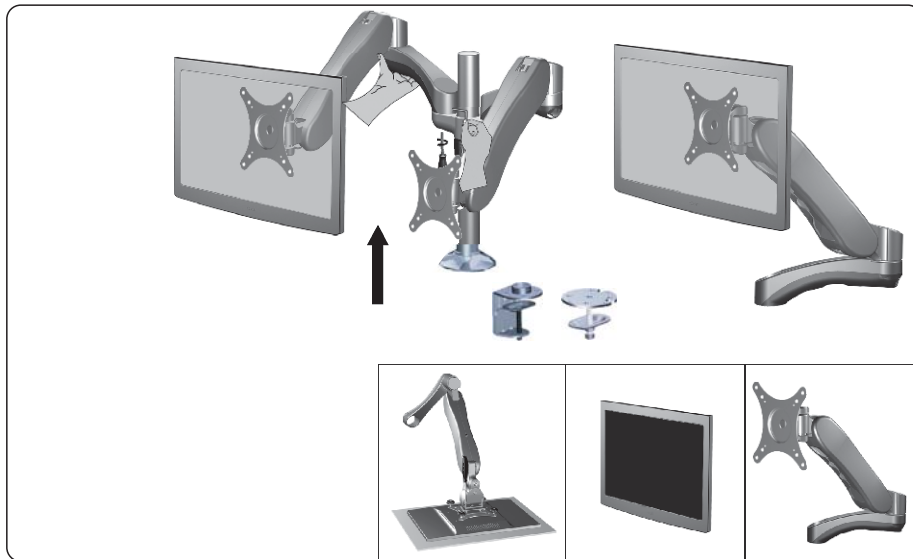

Figure 3-4
4. Caution when removing the display monitor. Loosen the Hex Grub Screw using Hex Allen Wrench 2.5mm (10) supplied. To support and lift the display monitor arm attached as shown. (See Figure 3-4)